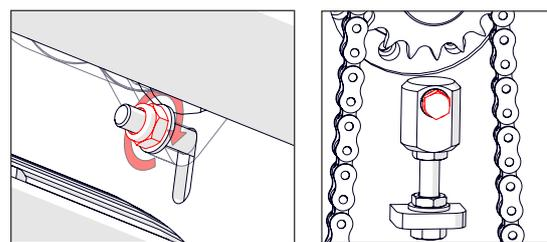

Fig. 11I - Tighten the tensioner block/motor nut.
9. Tighten the nut supporting the tensioner block [2 x 13 mm spanner] (Fig. 11I).